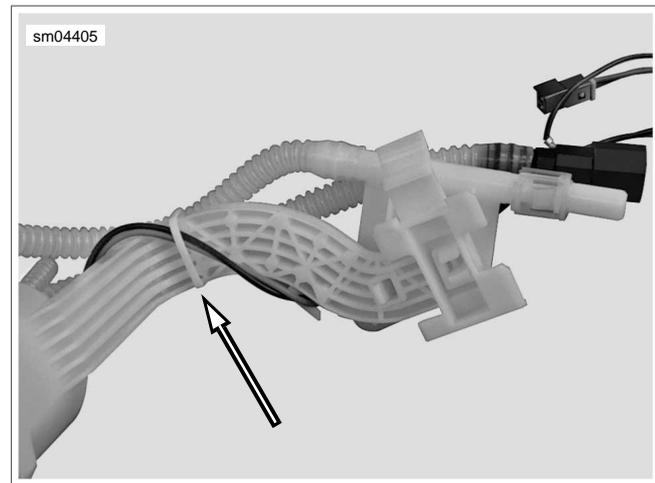

Figure 4-35. Cable Wires in Cable Strap
2. Route wire harness rearward and then forward under arm of fuel pump bracket. Install **new** cable strap at elbow capturing fuel pump and transfer tubes at top of arm and wire harness at bottom. See Figure 4-35.